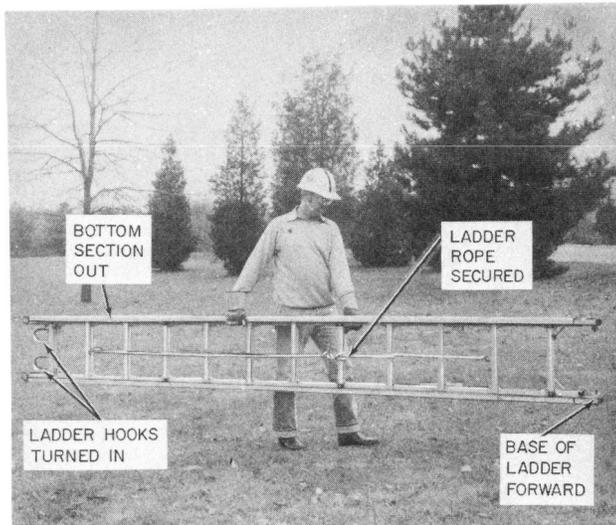

Fig. 30—Alternate One-Person Method of Carrying an Extension Ladder
7.07 An alternate one-person method of carrying an extension ladder is shown in Fig. 30.